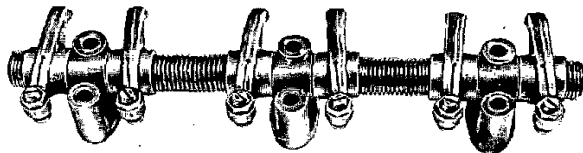

Fig. 74. Rocker arm mechanism, 60 series
5. Oil in the rocker arm shaft and assemble the various parts. Note that the rocker arms on the 60 series are placed opposite each other in pairs, fig. 74. On the 70 series the rocker arms are completely identical and can be placed optionally with respect to each other on the shaft. Ensure that the circlips in the ends of the rocker arm shaft are correctly located in their grooves.